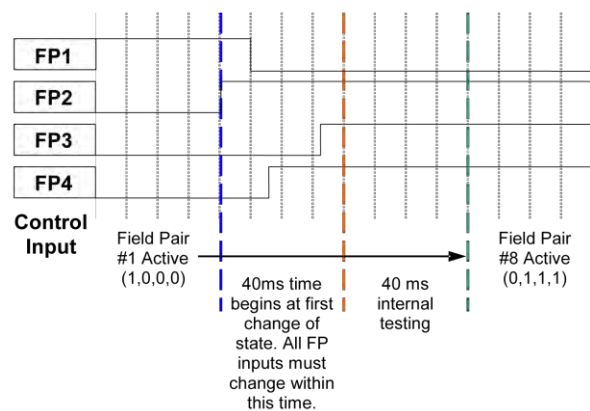

Figure 1-9. Example Field Pair Switchover timing diagrams
- The switchover must be made within one second, except when Field Pairs 5, 6, 7, or 8 are configured, at which time the switchover must occur within 40 ms. In this case, the original Field Pair is active during the switchover; the new Field Pair becomes active after a maximum of 80 ms. See timing diagram, Figure 1-9.
- For switching between Field Pairs 1, 2, 3, and 4, the new Field Pair(s) is active before the original Field Pair is deactivated (Field Pairs “overlap”) during the one-second switchover time limit. See timing diagram Figure 1-9.